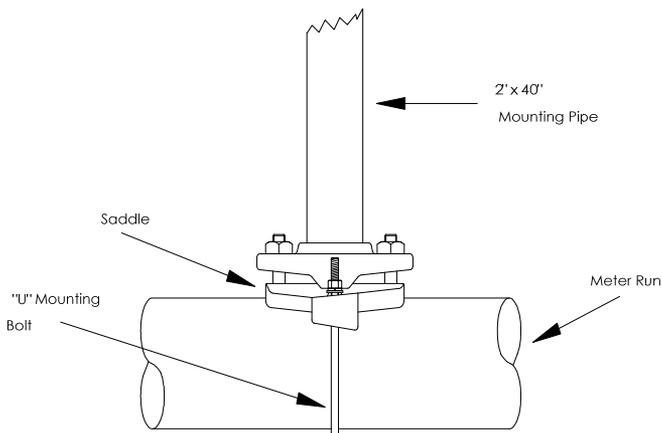

Figure 2– Pipe and Saddle Mount
- 1A** Temporarily attach the saddle on the meter run pipe, using the U-bolt and associated hardware (see Figure 2). Screw the 2” by 40” mounting pipe into the saddle. Place the level against the pipe, and vertically align. Adjust the pipe, mounted in the saddle, until vertical alignment is achieved.